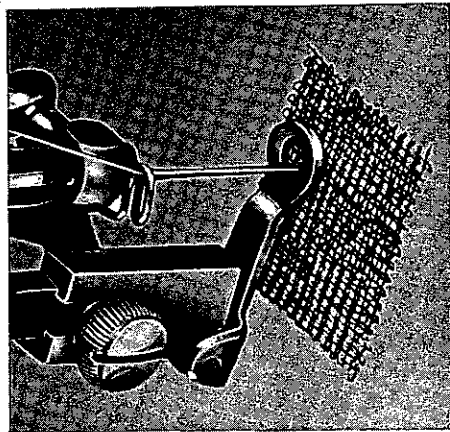

Fig. 35
9. Place portion of fabric, to be darned, under darning foot and lower presser foot (see Fig. 35).
12. Turn fabric around at right angles, so that next rows of stitches will be made directly across those just made (see Fig. 35), and proceed until hole is completely darned.